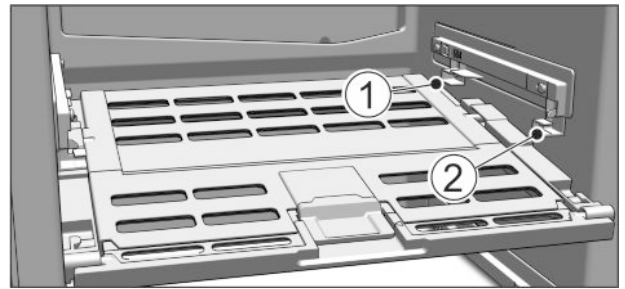

Fig. 17
- ▶ Replacing the Fruit & Vegetable safe cover: Guide the ridges on the cover into the rear brackets *Fig. 17 (1)* and click it into the front bracket *Fig. 17 (2)*.